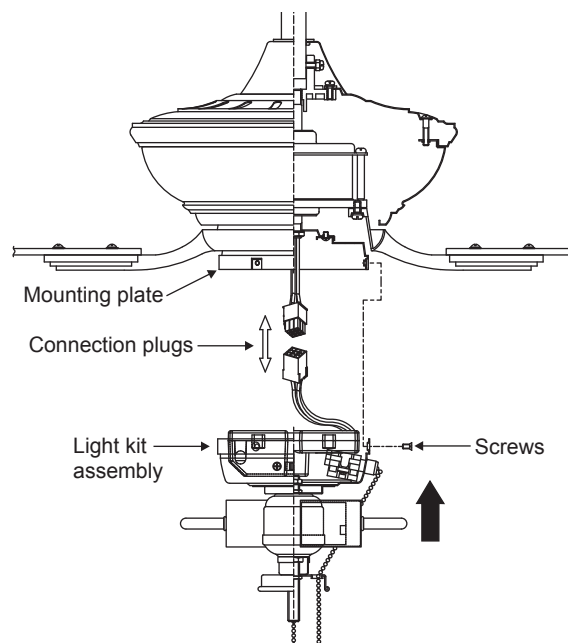

Figure 18
Step 2. While holding the light kit under your fan, snap together the wire connection plugs. (Fig. 18)
Step 3. Install the light kit onto the mounting plate with 3 screws provided. Be sure to tighten all screws. (Fig. 18)